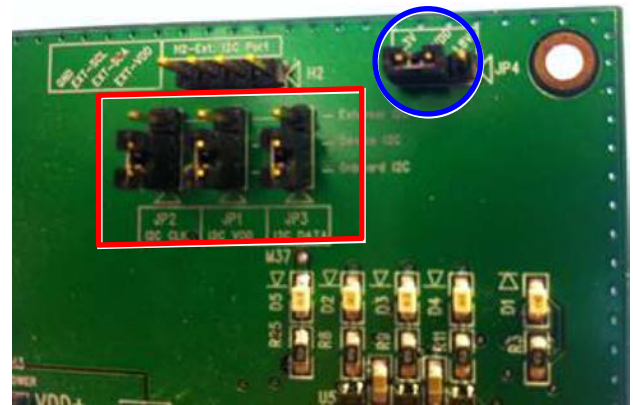

Figure 4. Jumpers as Configured for On-Board I²C Operation
If an external I²C source is to be used, place the JP1, JP2, and JP3 jumpers such that they connect the device I²C lines to the external I²C lines. Otherwise, they should connect the device I²C lines to the on-board I²C lines, as shown in the red rectangular area of Figure 4. If an external I²C is used, an external I²C source can be attached to H2, following the silkscreen labels displayed on the board.
3. Connect JP4 in the 3.3 V location as shown in the blue-circled area of Figure 4. The purpose of this is to power the Cypress USB controller to establish communication between the software and the board.
11. After a successful installation, the SSM2380 software recognizes a connection from the PC to the SSM2380 evaluation board. There is no need to adjust the jumper positions of JP1, JP2, and JP3; but they should be connected as shown in Figure 4.